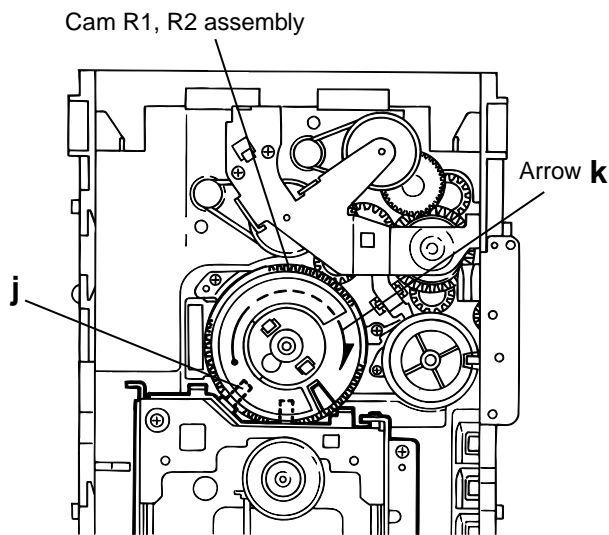

Fig.11
■ Removing the CD traverse mechanism (See Fig.11 and 12)
1. For dismantling only the CD traverse mechanism without removing the CD loading mechanism assembly, align the shaft "j" of the CD loading mechanism assembly to the position shown Fig.11 while turning the cam R1 and R2 assembly in the arrow direction "k" .